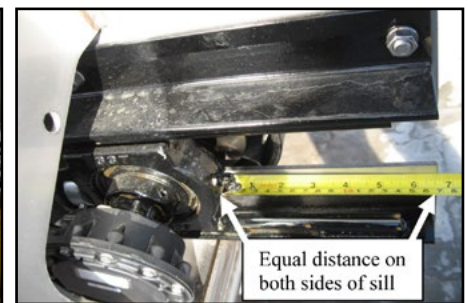

Figure 3
- C. Front idler turnkleen must be square with the conveyor bottom. Measure from front of bearing block to front of sill on both sides. (Figure 3) Move bearings as necessary to make measurements equal.